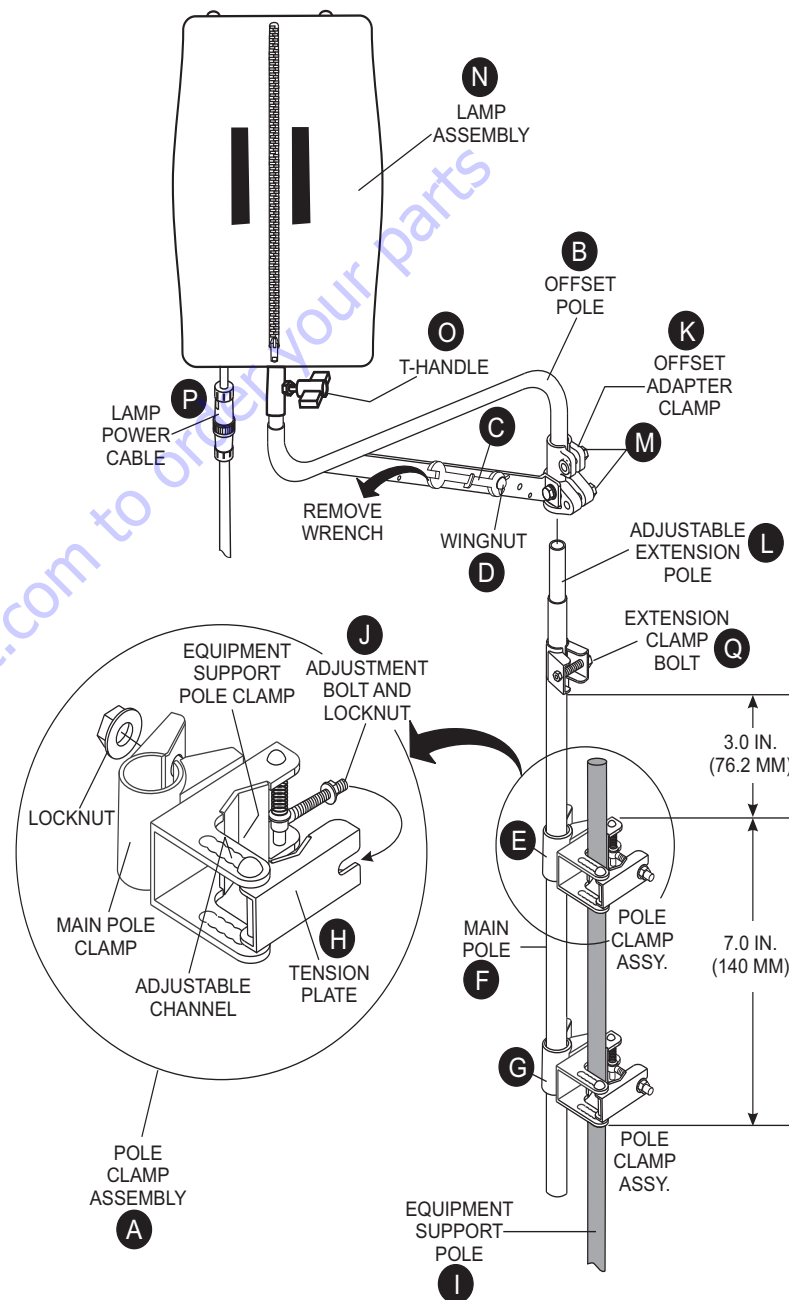

Figure 26. Offset Pole Assembly
Refer to Figure 26 for the following procedure.
1. Remove the offset pole (B) from the shipping container.
2. Attached to the offset pole is a 17/19 mm open-end wrench (C). Remove the wingnut (D) securing the wrench to the offset pole and remove wrench.
4. Remove the two pole clamp assemblies (A) from the shipping container. Attach one pole clamp assembly (E) to the main pole (F) about 3 inches (76.2 mm) down from the main pole extension clamp. Using supplied 19 mm wrench, tighten locknut on the pole clamp assembly securely.
5. Attach the other pole clamp assembly (G) to the main pole (F) about 7.0 in. (140 mm.) down from the previous attached pole clamp assembly (E). Using the 19 mm wrench, tighten locknut on the pole clamp assembly securely.
6. To attach main pole (F) to equipment support pole (I), swing open adjustable tension plate (H) on clamp so that it can accommodate the diameter of the equipment support pole. Insert equipment support pole (I) through the two equipment support pole clamp assemblies as shown in Figure 26.
7. Once the equipment support pole (I) has been seated properly, move adjustment bolt and locknut (J) into locking position. Use the supplied 17 mm wrench, to tighten locknuts (J) on both clamps securely.
8. Place offset pole (B) with adapter clamp (K) on top of adjustable extension pole (L). Make sure that offset pole has been seated correctly.
9. Using 17 mm wrench, tighten both bolts (M) on the offset adapter clamp (K) securely.
10. Place lamp assembly (N) onto offset pole (B). Tighten T-handle bolt (O) securely.
1. Before raising the mast, make sure the T-handle bolt lock (see Figure 26-O) is securely tightened. This will prevent the balloon/lamp assembly from falling off. In addition make sure that the lamp power cable is connected to the mating end of the power source cable.
2. Raise extension pole (see Figure 26-L) to desired height. Watch out for any overhead obstructions.
3. Using the supplied 19 mm wrench tighten extension clamp bolt (see Figure 26-Q) securely. Place wrench in a safe place where it will not get lost.